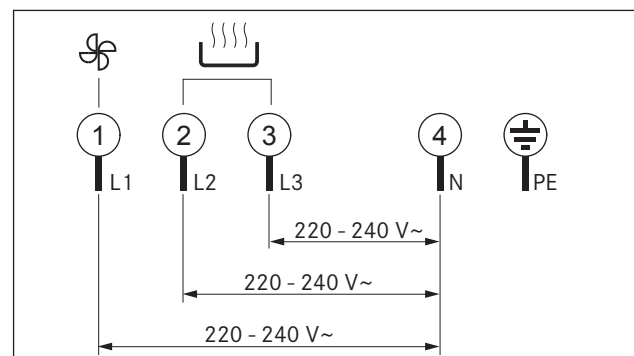

Abb. 6.36 Connection diagram 3-phase connection
- ▶ Connect the power supply cable to the power supply [2] of the cooktop with cooktopFig. 6.36r in accordance with the relevant connection diagram (see fig. 6.36 Connection diagram).